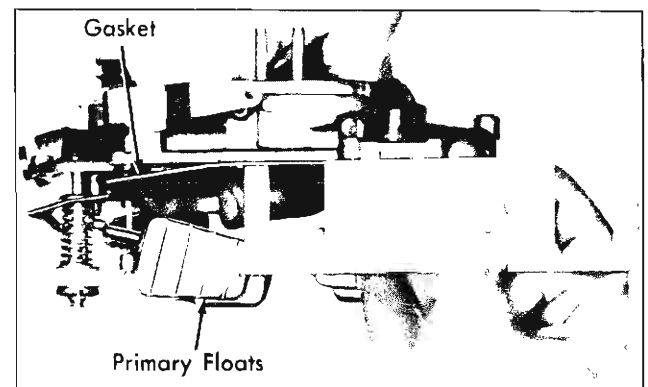

Fig. 48—Primary Float Drop Adjustment
F. Float Drop Adjustment—Primary Side (Fig. 48)